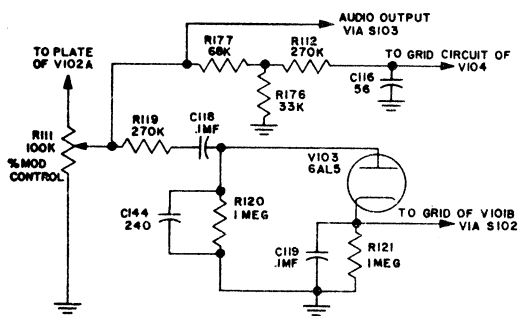

Figure 2-6. Simplified Schematic Diagram of the Modulation Diode
(3) The rectified RF signal appears across the crystal diode resistors R-126 and R-127. A 56 micromicrofarad capacitor (C-142) and a 5000 micromicrofarad capacitor (C-136) serve to bypass the RF energy from the voltmeter bridge circuit. An additional feedthru type RF bypass capacitor (C-137) permits the entry of the RF crystal diode (CR-101) output into the audio compartment. A part of the rectified RF signal voltage is taken across R-127 and applied to the grid of the bridge tube (V-101B) when the METER READS switch (S-102) is in the RF position. The RF voltage is read from the upper scale of the meter (M-101). This scale is calibrated from 0 to 50 microvolts. When the meter indicates 50 microvolts, one volt output open circuit, is present at the X 20,000 RF OUTPUT jack (J-101). When J-101 is terminated in its characteristic impedance (500 ohms) a meter reading of 50 microvolts represents an output of 0.5 volt. Similarly, if the output is taken from the X MULT RF OUTPUT jack (J-102), and this jack is terminated in its characteristic impedance (53.5 ohms), the voltage at J-102 is determined by multiplying the MULTIPLIER dial (I-104) setting by the meter reading. (See Section 2 par. 6 and par. 8).
b. MODULATION DIODE. (See figure 2-6).
(1) The modulation diode (V-103) is a type 6AL5 dual diode with only one tube section used. It rectifies the modulating voltage. This rectified voltage is then applied to the grid of the voltmeter bridge tube (V-101B) for determination of percentage modulation. The same voltmeter bridge is used for reading percentage modulation as is used for determining carrier output strength. The principal features of the modulation diode are shown in Figure 2-6.
(2) The percentage modulation of the carrier frequency is determined by the modulation voltage applied to the control grid of the buffer-amplifier (V-104, V-105). This modulation voltage is taken from the 100,000 ohm % MODULATION potentiometer (R-111) and applied across the modulation diode (V-103) circuit where it is rectified. Resistors R-119 and R-121 serve as a voltage divider. A part of this rectified audio voltage is taken across R-121 and applied to V-101B when the METER READS switch (S-102) is in the % MOD position. Capacitor C-118 blocks the DC grid voltage of V-104 from V-103. Due to the modulation characteristic of the buffer-amplifier circuit, the degree of modulation is a function of audio voltage and independent of the carrier amplitude. This is true in such a grid modulating system when the RF signal amplitude is small with respect to the amplitude of the audio voltage. In this type of circuit, the degree of modulation is a function of the change in gain of the modulating stage (buffer-amplifier) brought about by the audio voltage. This can be seen from an analysis of the Eg-Ip (grid voltage-plate current) curve of the tube. As the audio voltage on the grid swings up and down, the instantaneous operating point of the RF signal is changed. When the swing occurs over the non-linear region of the Eg-Ip curve, the instantaneous gain of the tube, with respect to the RF signal, also changes.